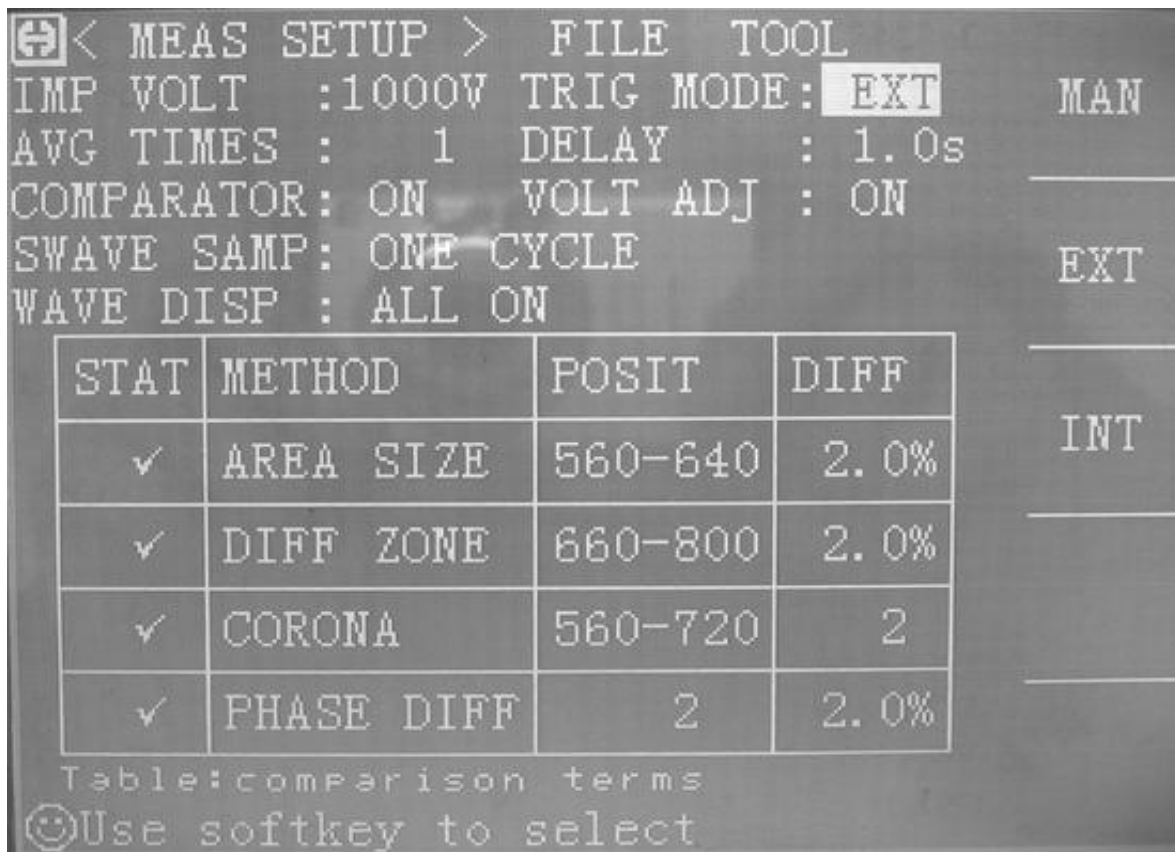

Figure 2-7 TRIG MODE Is Set to EXT Mode
4) Press softkey **EXT** to set the trigger mode to EXTERNAL mode as shown in Figure 2-7.